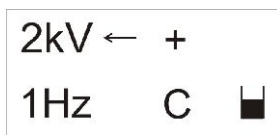

Figure 3
7.3. Turn on the generator by the switching key on the generator handle. After the screen saver, a menu appears on the LCD display of the generator as shown on Figure 3, and the illumination is turned on.